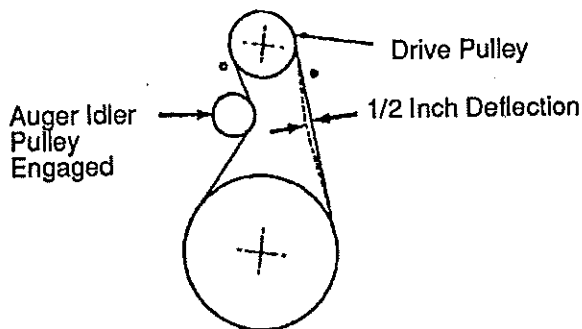

FIG. 4-SERV & ADJ
- Press the auger drive lever. Check the tension on the belt (opposite auger idler pulley). The belt should deflect about 1/2" with moderate pressure (See FIG. 4-SERV & ADJ).